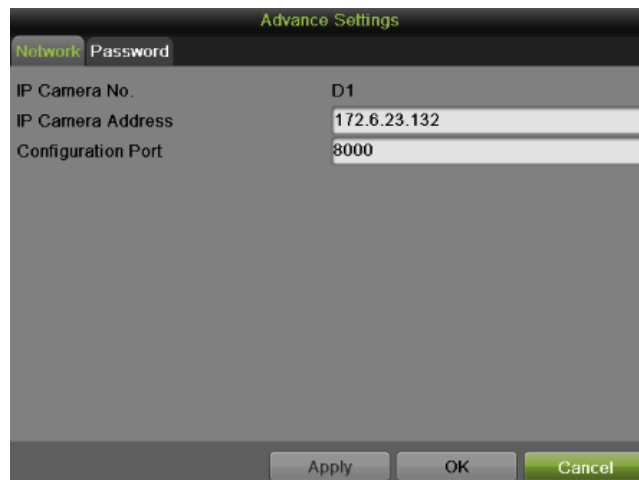

Figure 94 Advance Settings Menu
4. For editing more parameters, click the Advance Set button to pop up an Advance Settings window, as shown in Figure 94.